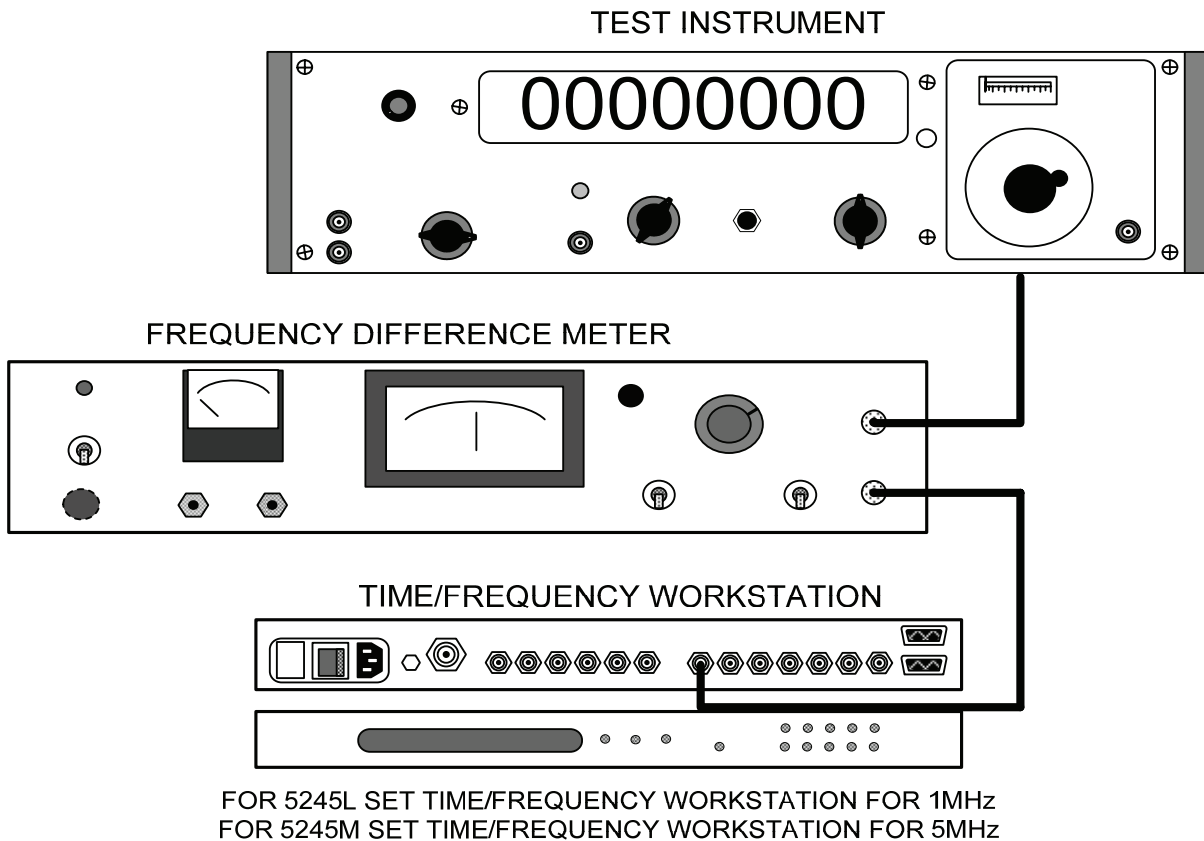

Figure 1. Oscillator stability - equipment setup.
- (1) Connect equipment as shown in figure 1.
- (2) Position controls as listed in (a) through (d) below: